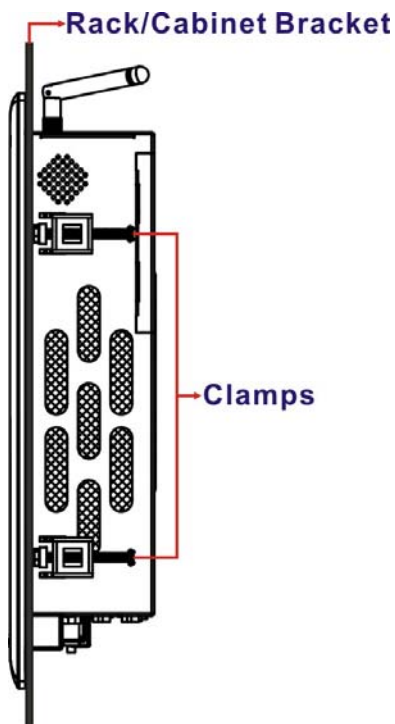

Figure 3-21: Secure the Rack/Cabinet Bracket
Step 3: Tighten the screws that pass through the rack mounting clamps until the plastic caps at the front of all the screws are firmly secured to the bracket (Figure 3-21).